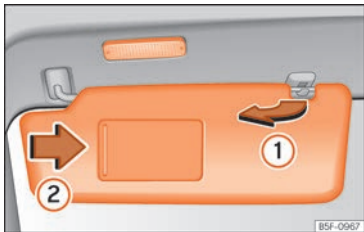

Fig. 146 Sun visor
- The sun visor can be pulled out of its mounting and turned towards the door »» **Fig. 146** ①.
There may be a vanity mirror, with a cover, on the rear of the sun visor. When the cover is opened »» **Fig. 146** ② a light comes on.